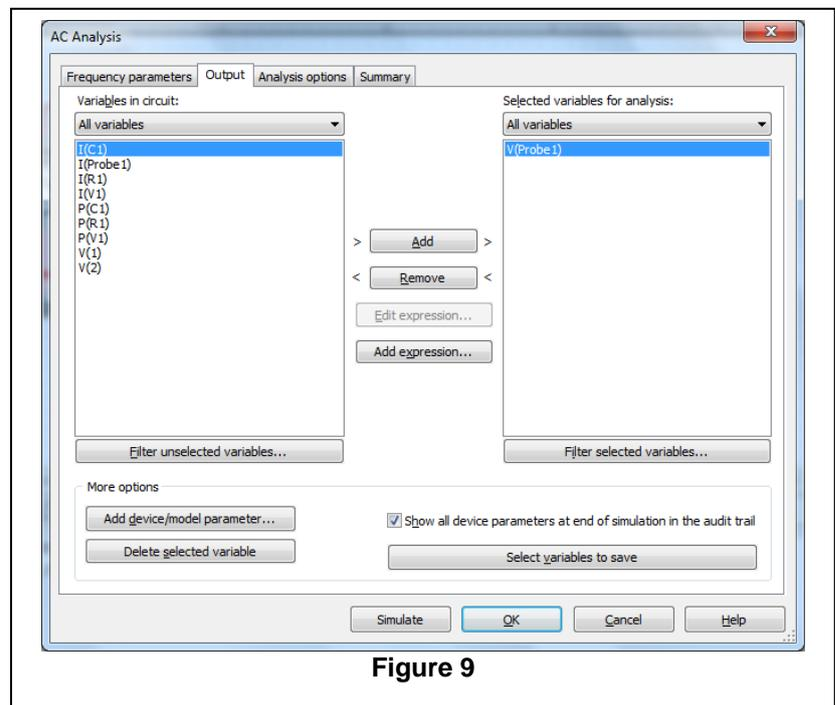

Figure 9
- You need to select which node to analyse. **Simulate > Analyses > AC Analysis > Output** as shown in **Figure 9**.
Click **V(probe1)** to select it then **> Add >** to move it to the list on the right. When you have done this, it should look like Figure 9.